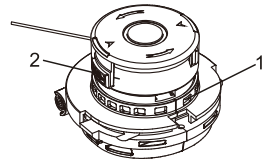
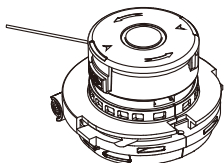

Fig. 14
Fig. 18
1. Press the spool locking buttons (1) into the spool housing (2) (Fig. 14).
8. When the new trimmer line spool is installed, approximately 3" (7.6 cm) of trimmer line should be exposed beyond the spool housing. If it is too long, cut it to length with scissors. If it is too short, press the line release button (10) on the trimmer line housing and gently pull on the exposed trimmer line (Fig. 18).
If the cutting circle is getting too small, the trimmer line may be either jammed on the spool or has run out. Manually advance the line as outlined in Fig. 18. If that fails, see "CORRECTING A JAMMED OR SHORT TRIMMER LINE" below.
When finished trimming, clean the underside of the guard and the spool. Advance the line as outlined in Fig. 18 to ensure the line is the correct length for the next trimming.
Press the line release button (10) on the trimmer line housing and gently pull on the exposed trimmer line until 3" (7.6 cm) of line is exposed beyond the spool housing (Fig. 18).
Remove the spool from the spool housing, unwind approximately 3" (7.6 cm) of line and reinstall the spool (Fig. 14 through Fig. 18).
Remove the spool from the spool housing, unwind all the trimmer line from the spool and rewind the trimmer line onto the spool (Fig. 14 through Fig. 18).